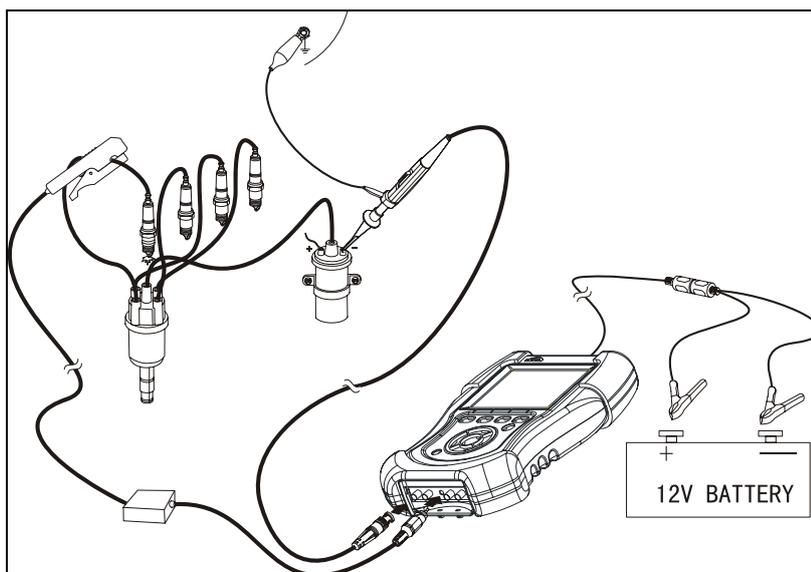

Fig. 5-8
Take out inductive pickup and test probe from packing case. Connect one end of inductive pickup to CH5/(CH3) port of KT600, use signal clip to clip high voltage line of one cylinder of engine. Please check that there is "This side faces to spark plug" on the signal clip, do not clip reversely; connect one end of test probe to CH1 port, place the attenuation switch on test probe to "X10" position to connect to "IG-" signal line of ignition coil, as shown Fig.5-8.
1. Connect equipment according to Fig.5-8, switch on power supply switch of KT600;